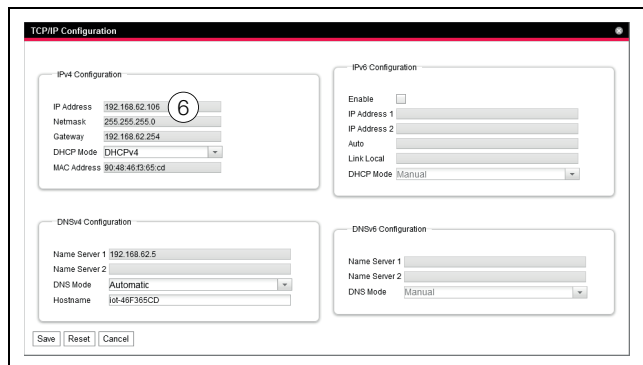

Fig. 12: Customising the TCP/IP settings
- Change the IP address of the device in the **TCP/IP Configuration** window in the **IPv4 Configuration** group frame to an address permitted in the network (fig. 12, item 6).